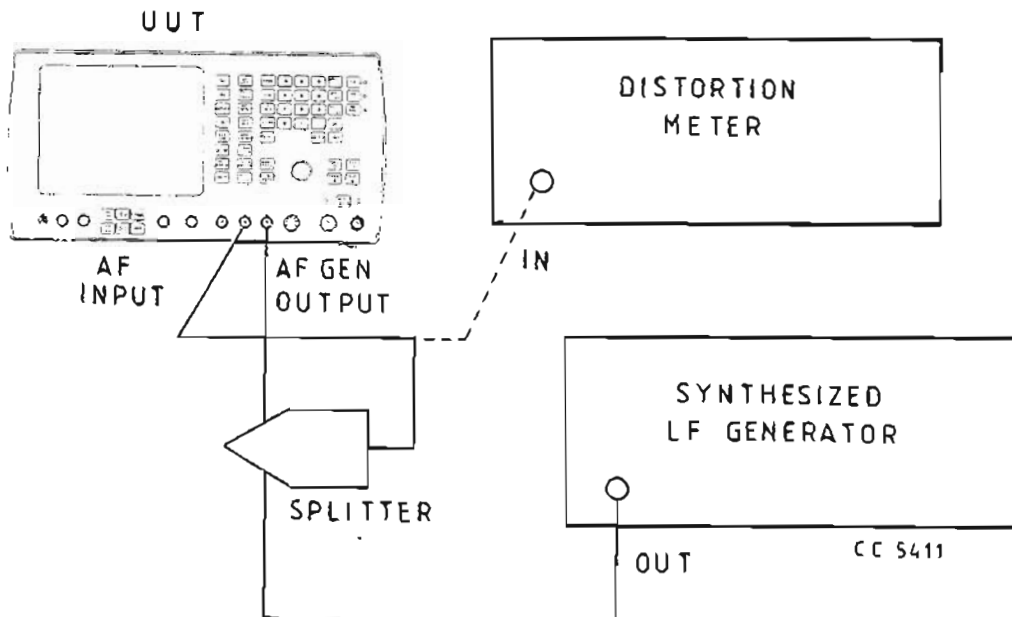

Fig. 17 Test equipment connections for distortion/SINAD meter distortion accuracy performance checks
- (1) Connect the equipment as shown in Fig. 17.